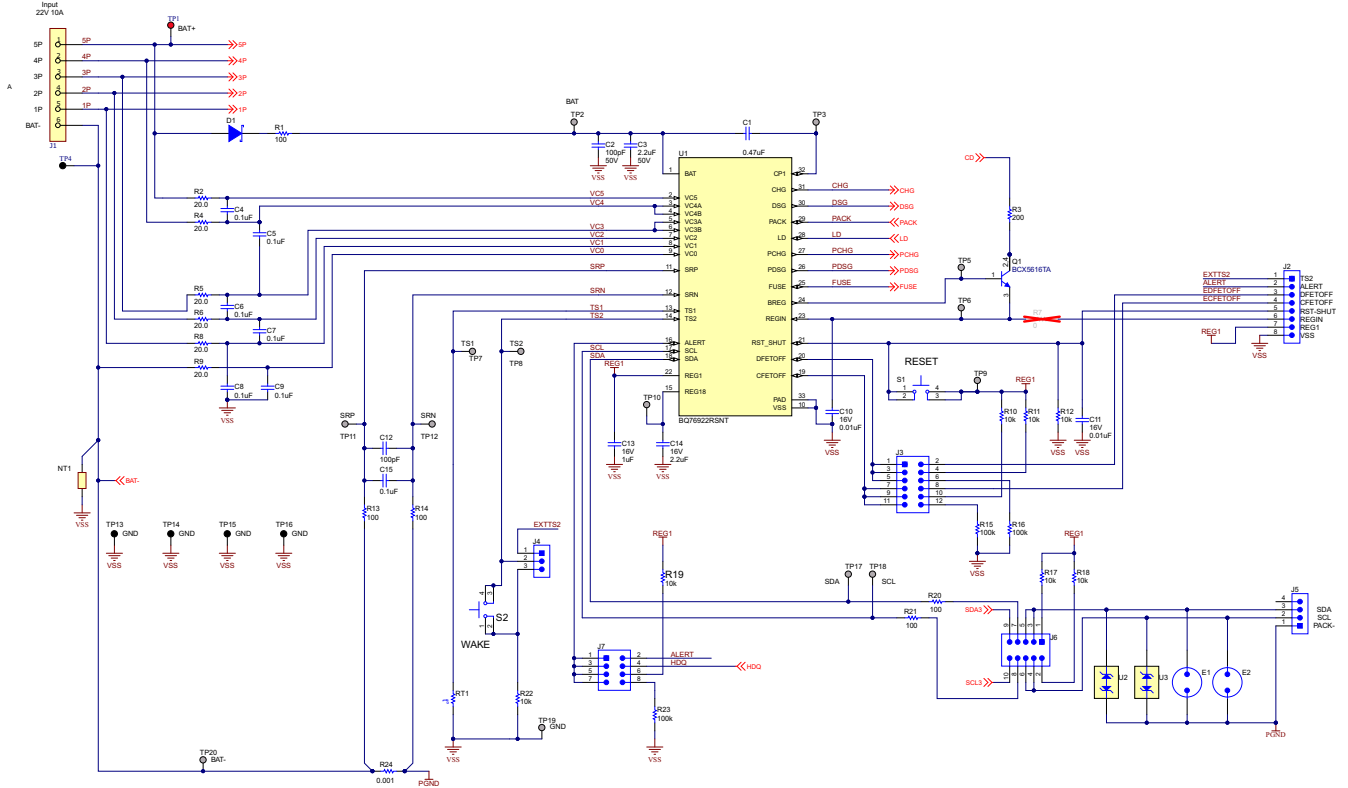

Figure 8-2. BQ76922 5-Series Cell Schematic Diagram—Monitor
- Power dissipation, which can be a factor of the RDS(ON) rating of the FET, the FET package, and the PCB design.
- The overdrive level of the BQ76922 device charge pump should be selected based on RDS(ON) requirements for the protection FETs and their voltage handling requirements. If the FETs are selected with a maximum gate-to-source voltage of 15V, then the 11V overdrive mode within the BQ76922 device can be used. If the FETs are not specified to withstand this level, or there is a concern over gate leakage current on the FETs, the lower overdrive level of 5.5V can be selected.
- A diode can optionally be included in the collector circuit of the BJT, in order to avoid reverse current flow from BREG through the base-collector junction of the BJT to PACK+ during a pack short circuit event. This diode can be seen in Figure 8-2 at D2.